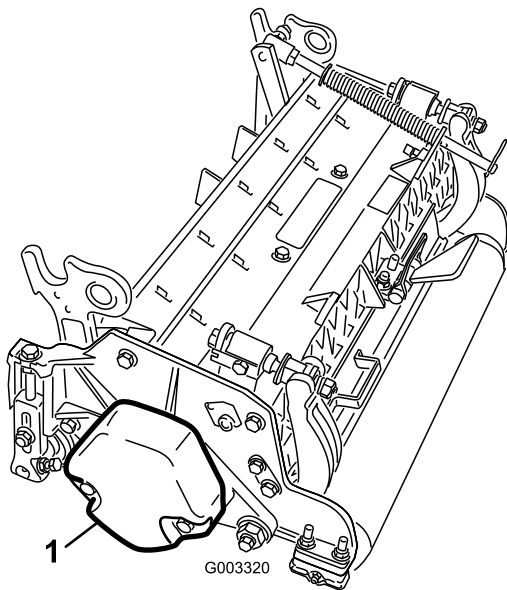

Figure 11
1. On the #2, #4 and #6 cutting units, remove the 2 cap screws securing the counter weight to the left end of the cutting unit. Remove the counter weight (Figure 11).